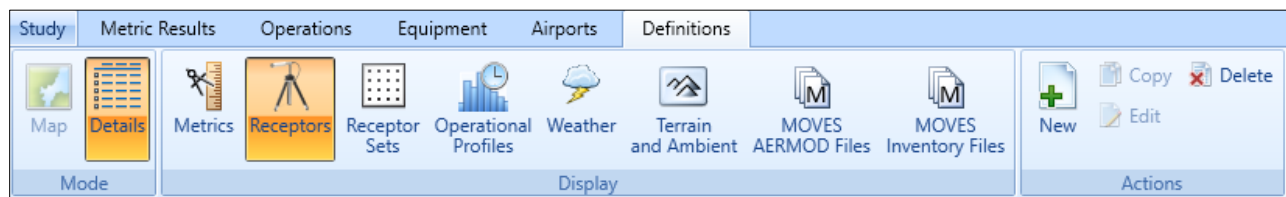

Figure 14. Definitions Tab – Receptors
1. From the *Definitions* tab, *Display* ribbon group, select *Receptors* (Figure 14).